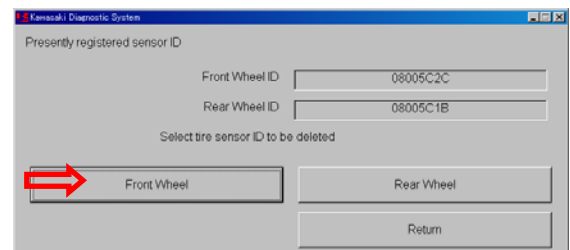

Fig. 5-18 TPMS ID
- Currently registered sensor IDs are shown. Fig. 5-18